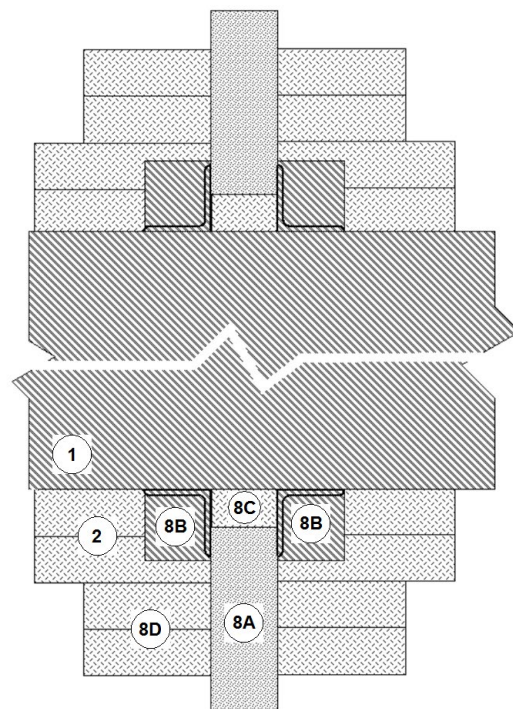

Figure 12. Wall Firestop
- 8. WALL PENETRATION FIRESTOP:** When required to penetrate a fire-rated wall assembly, install the firestop system described in Items 8A to 8D (Reference Figure 12).